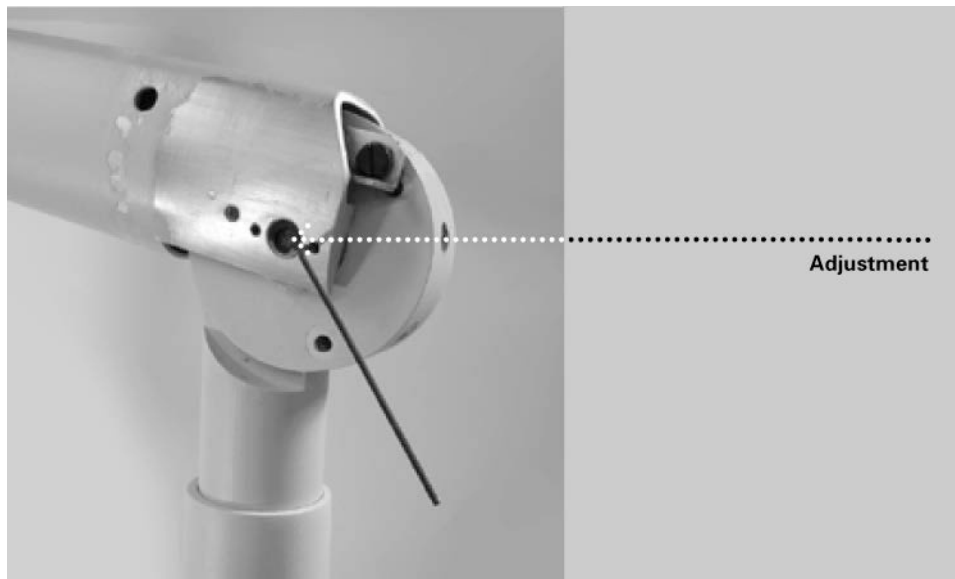

Figure 102
2. Using a 2 mm Allen wrench, as shown in *Figure 102*, tighten both screws evenly at each adjustment point until the movement of the Articulating Arm is as desired. Do not loosen adjustment points so far as to allow the Articulating Arm to drift.